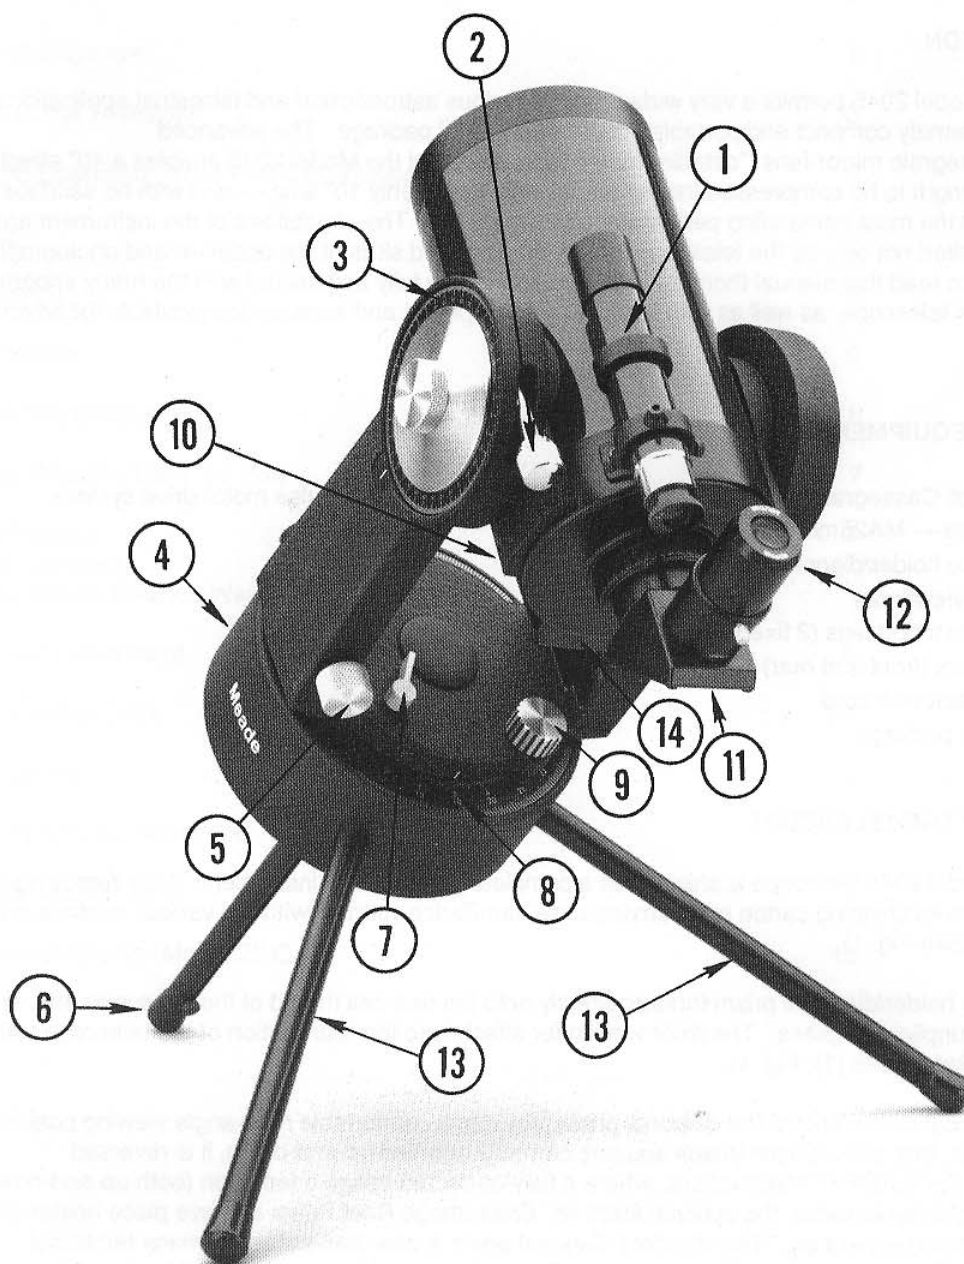

Fig. 1 — Meade Model 2045
The basic Model 2045 telescope is shipped as a completely assembled instrument. After removing the telescope from its shipping carton and carrying case, familiarize yourself with the various controls and accessories (See Fig. 1).
The eyepiece holder/diagonal prism threads directly onto the rear cell thread of the telescope and, in turn, accepts the supplied eyepiece. The 5x24 viewfinder attaches to the rear portion of the telescope with the supplied hardware (see (1), Fig. 1).
By unlocking the R.A. lock (7), Fig. 1, the telescope may be turned rapidly through wide angles in Right Ascension (R.A.) The reason for the terminology "Right Ascension" and its complementary term "Declination" will be made clear further on in this manual. For now, "Right Ascension" simply means "horizontal" and "Declination" means "vertical."
Release the Declination lock (2), Fig. 1, by rotating the control lever in a counterclockwise direction. This permits sweeping the telescope through wide angles in Declination.
To use the Declination fine-adjust, or slow-motion control, lock the telescope in Declination using the Declination lock (2) Fig. 1, and turn the Declination slow-motion knob (5), Fig. 1.
With the above mechanical operations in mind, select an easy-to-find terrestrial object as your first subject — for example a house or building perhaps one-half mile distant. Unlock the Dec. lock (2), Fig. 1, and R.A. lock (7), Fig. 1, center the object in the telescopic field of view and then re-lock the Dec. and R.A. locks. Precise image centering is accomplished by using the Dec. and R.A. slow motion controls (5) and (9), Fig. 1.
1. Attach the 3 tripod legs to the telescope, as shown in Fig. 1. Note that one leg is adjustable in length. This leg should be threaded into the central hole on the underside of the drive base.
- b. Lengthen or shorten the adjustable tripod leg (6), Fig. 1, **until the angle it makes with the horizontal is equal to your latitude.** (Most road maps show latitude). Use a protractor for this operation: hold the protractor up to the tripod leg and adjust the leg length until the leg angle to the horizontal equals your latitude.
As a separate procedure, during your first use of the telescope, you should check the calibration of the Declination setting circles (see (3), Fig. 1), located at the top of the two fork arms. With Polaris in the field of the viewfinder or in the field of the main telescope if properly polar aligned, loosen slightly the knurled central hubs of both Declination setting circles. Now turn each circle until each reads 89.2°, the Declination of Polaris, and then tighten down the knurled knob, avoiding any motion of the circle.
Supplied as standard equipment with the Model 2045 is an extremely accurate drive gear drive system, driven by a precision pulse motor. The power cord from the battery pack plugs into the bottom of the telescope's drive base. The North-South switch, located on the bottom plate of the drive base (see (4), Fig. 1), reverses the motor drive direction, thus permitting use of the telescope in both the Northern and Southern hemispheres.
With the telescope set up in the equatorial mode (as described above under "Lining Up with the Pole"), plug the power cord into the drive base. Immediately, if you put your ear to the drive base of the telescope, you will be able to hear the low level noise created by the running motor. The drive system turns the fork mount of the telescope through one complete revolution every 24 hours, and results in the stars "standing still" as you view them through the telescope eyepiece. The motor drive also drives the R.A. setting circle, (see (8) Fig. 1), as described in the next section.
The motor drive is engaged by turning the R.A. lock (see (7), Fig. 1) to the locked position. Simply "unlock" the R.A. lock to disengage the motor drive when manually pointing the telescope at another object.
Setting circles included with the Model 2045 permit the location of faint celestial objects not easily found by direct visual observation. Located on the top surface of the telescope's drive base, the R.A. circle (7), Fig. 1, is 6" (15cm) in diameter. The Declination circles (see (3), Fig. 1), are located on top of each fork tine. With the telescope pointed at the North Celestial Pole, the Dec. circle should read 90° (understood to mean +90°). Objects located below the 0-0 line of the Dec. circle carry minus Declination coordinates. Each division of the Declination circle represents a 1° increment. The R.A. circle runs from 0^{hr} to (but not including) 24^{hr}, and reads in increments of 5^{min}.